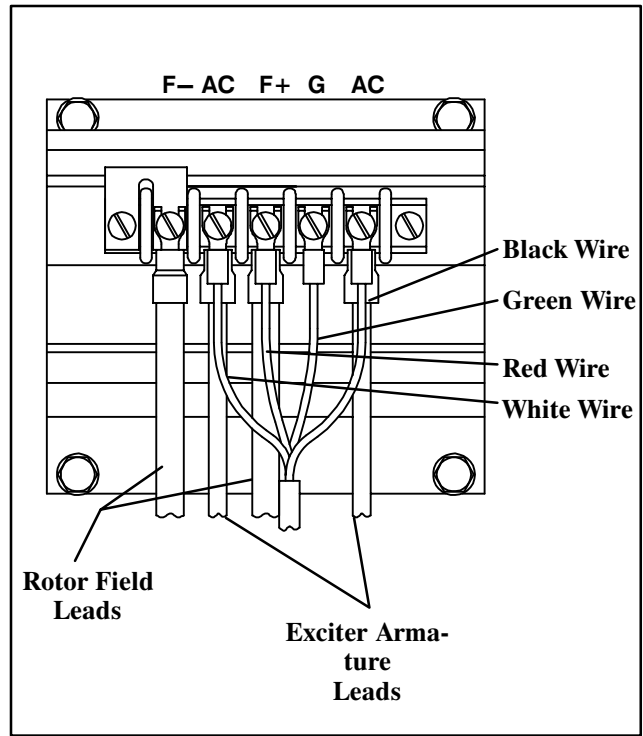

Figure 6. SCR Assembly Wiring
14. Connect one rotor field lead to SCR "F–" terminal and remaining rotor field lead to SCR "F+" terminal. See Figure 6. Connect exciter armature leads to SCR "AC" terminals. Connect photo board black wire to SCR "AC" terminal, green wire to "G" terminal, red wire to "F+" terminal, and white wire to remaining "AC" terminal. Tighten SCR assembly terminal screws to secure electrical connections.